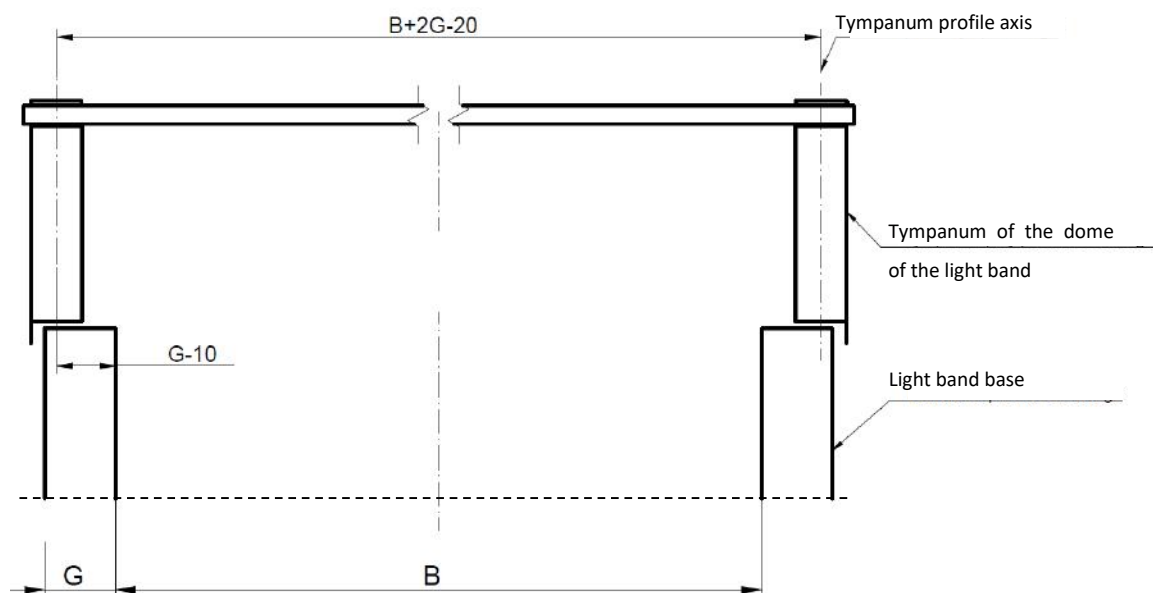

Figure 27 Arrangement of tympanum panels in relation to the rooflight base
- Now place the assembled tympanum panel vertically on the tympanum base. Apply a PES gasket to seal a gap between the tympanum panel and the waterproofing layer, if less than 10 mm wide. Fix the tympanum panels to the base using self-drilling screws  $\varnothing$  6.3x32 mm, fixed at 300-350 mm intervals, **so that the deflection of the steel profile after tightening the screws does not exceed 3 mm at the base centre**. Once the tympanum wall has been fixed to the base, the arch-shaped tympanum profile should be fixed to the longitudinal base piece and to the edge profile using self-drilling screws  $\varnothing$  6.3x32. The tympanums on the opposite sides of the rooflight should be arranged as shown in (Figure 27 Arrangement of tympanum panels in relation to the rooflight base).